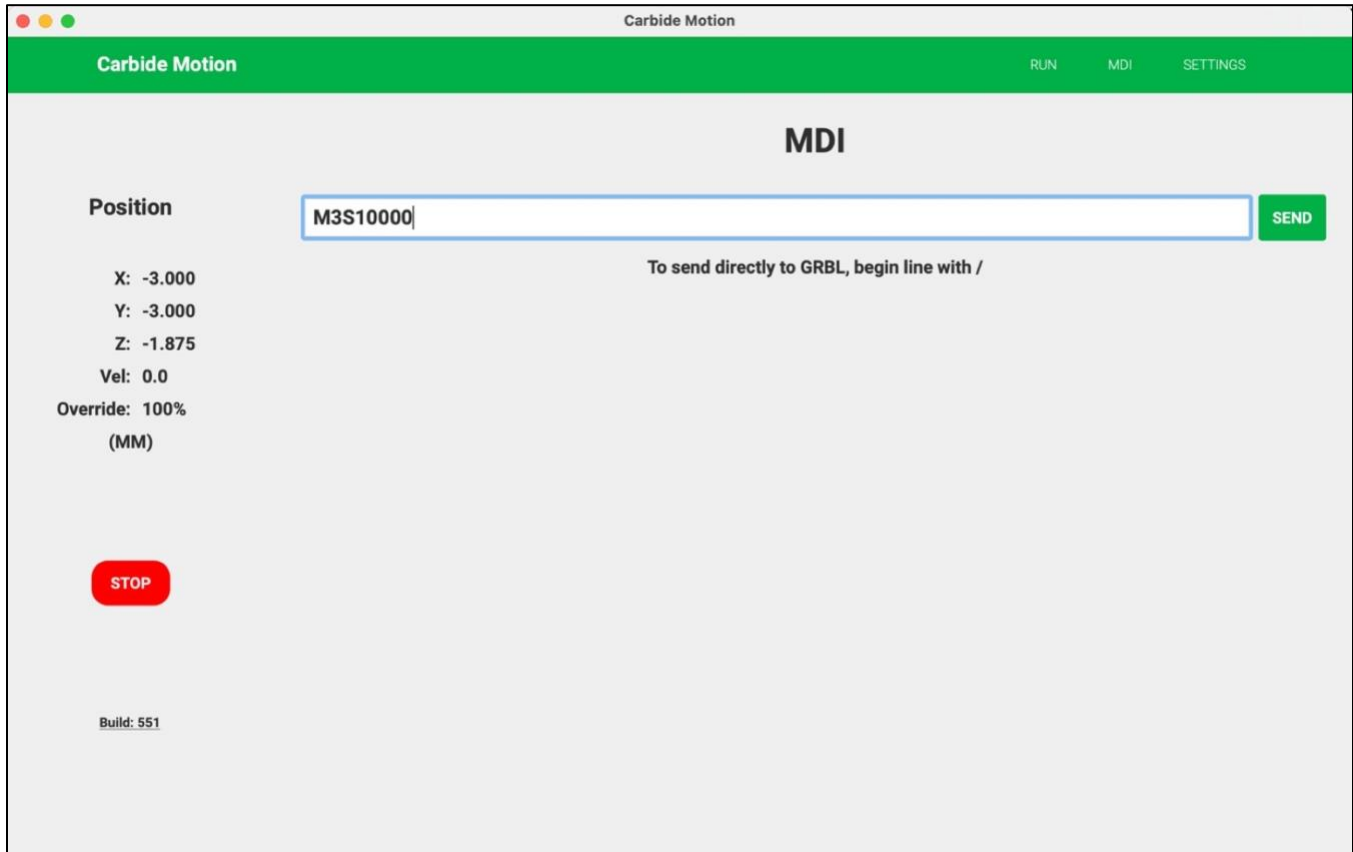

Figure 13
5. Type "M3S10000" in the command line and click the **Send button**. See *Fig. 13*.